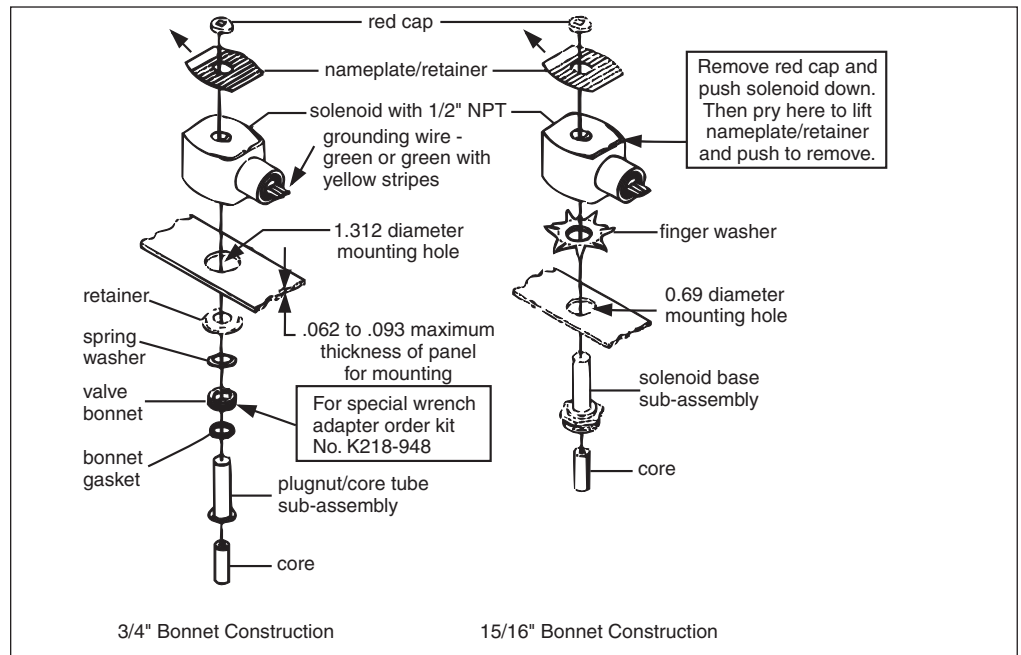

Figure 3. Series 8016G panel mounted solenoids
- **Panel Mounted Construction:** These solenoids are specifically designed to be panel mounted by the customer through a panel having a 0.062 to 0.093 maximum wall thickness. (Refer to Figure 3 and section on Installation of Panel Mounted Solenoid).
(See Figure 3) Disassemble solenoid following instruction under Solenoid Replacement then proceed